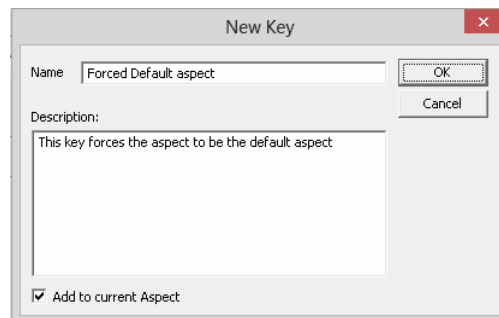

Figure 120. New Key
3. Give the key a name and a description. See Figure 120.